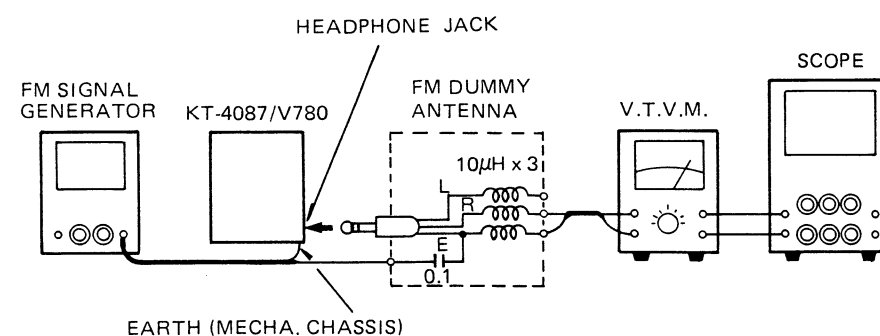

Figure 12
2. Connect the signal generator output through a FM dummy antenna across the headphone jack. (Figure 12)